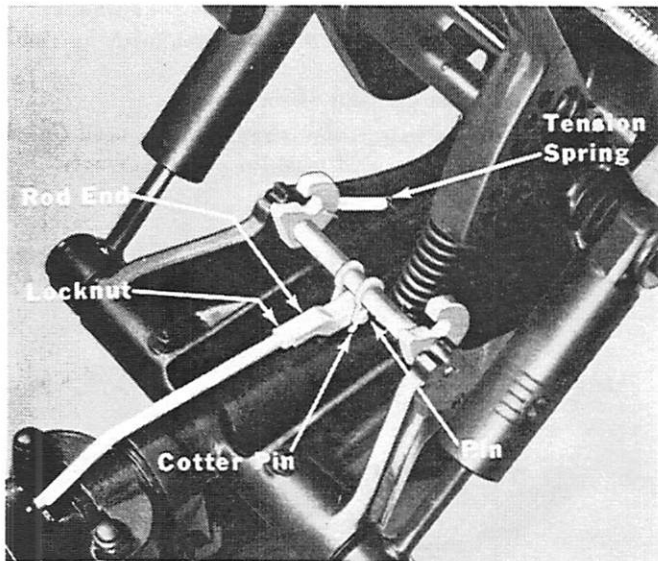

Figure 4. Reverse Latch Hook Assembly
3. Install new reverse lock and shaft assembly and connect tension spring to reverse lock. (Figure 4)